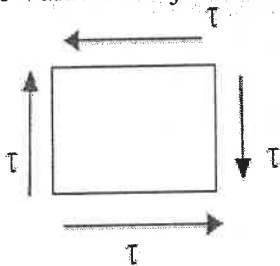

Fig.01
1. For a body subjected to only shear stress $\tau=50$ Mpa as shown in Fig.01 below, find out the Value of Major Principal Stress= _____ MPa and Minor Principal Stress= _____ MPa.